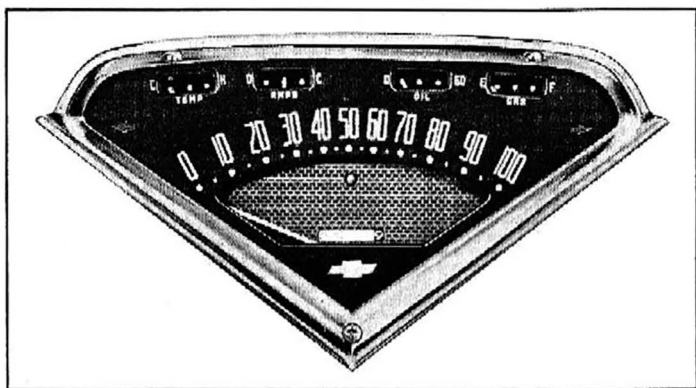

Fig. 3—Instrument Group
The instruments are grouped in a single triangular cluster on the instrument panel directly in front of the steering wheel (fig. 3).
**Gasoline Gauge.** The electrically operated gasoline gauge is at the upper right side of the instrument cluster (fig. 3). It is wired through the ignition switch and, therefore, only indicates the amount of fuel in the tank when the ignition switch is turned on.
**Temperature Gauge.** The water temperature gauge is at the upper left side of the instrument cluster (fig. 3), with the sending unit located in the water jacket at the left rear of the cylinder head on 6-cylinder engines and at the front of the intake manifold on V-8 engines. Normally, when the engine is thoroughly warmed up, the needle will register near the center of the gauge. The driver should watch this instrument closely,
**Ammeter (Battery Indicator).** The Ammeter is to the left of center near the top of the cluster (fig. 3) and indicates the flow of current to and from the battery, except the current taken by the starting motor. Should the ammeter show discharge when the truck is being driven at medium speed, trouble is indicated in the charging system and the battery will soon become discharged.
**Oil Pressure Gauge.** This instrument is to the right of center near the top of the instrument cluster (fig. 3), and indicates whether or not the oil pump is working, but does not indicate the amount of oil in the crankcase.